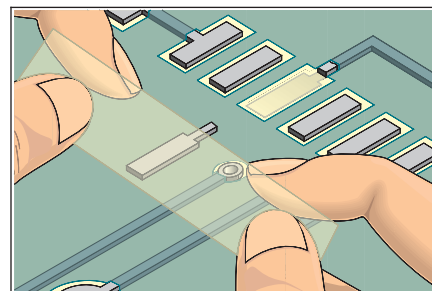

Figure 4 Position pad using tape.
11. Place a piece of Polyimide tape over the top surface of the new pad. Place the new pad into position on the printed circuit board surface using the tape to help in alignment. (See Figure 4.)